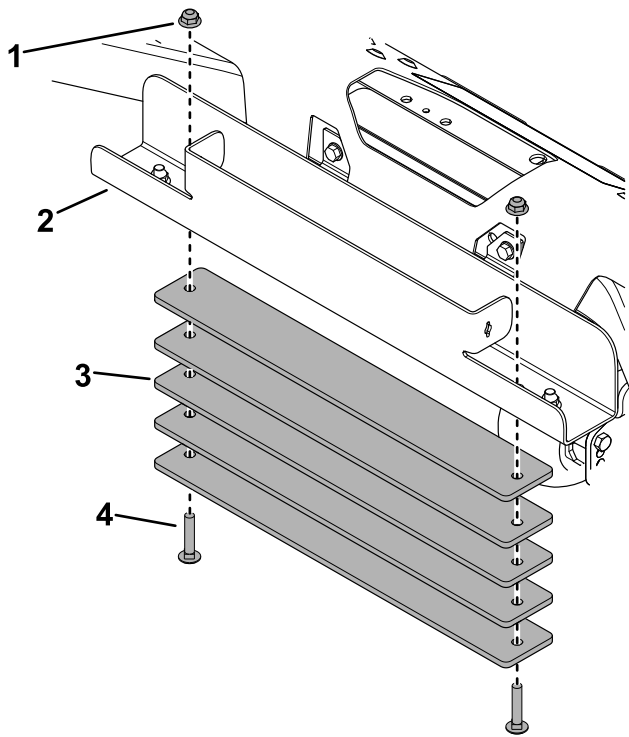

Figure 2
2. Install the 5 weights under the weight tray (Figure 2).